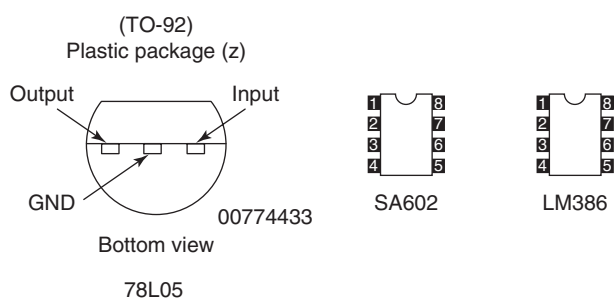

Figure 9-3 Semiconductor pin-outs
The 80/40 meter receiver utilizes two integrated circuits and a regulator IC. Take a look at the diagram shown in Figure 9-3, which illustrates the semiconductor pin-outs. When constructing the project it is best to use IC sockets as an insurance against a possible circuit failure down-the-road. It's much easier to unplug an IC rather than trying to un-solder it from the PC board. IC sockets will have a notch or cut-out at one end of the plastic socket. Pin one (1) of the IC socket will be just to the left of the notch or cut-out. Note that pin 1 of U1 connects to C1, while pin one (1) of U2 connects to C15. When inserting the IC into its respective socket make sure you align pin one (1) of the IC with pin one (1) of the socket. Failure to install the IC properly could result in damage to the IC as well as to the circuit when power is first applied.